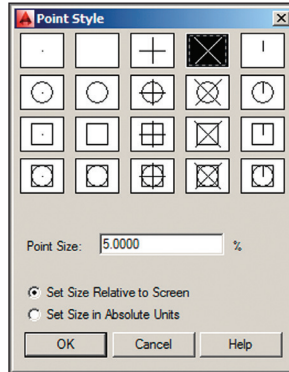

FIGURE 2.20 Changing the point style so that points are more visible
- You will use preexisting points as guides in drawing the burners. However, the points are difficult to see right now because they are represented as single pixels. Expand the Utilities panel on the Home tab and select Point Style or type **PTYPE** and press Enter. In the Point Style dialog box, select the X icon and click OK (see Figure 2.20).